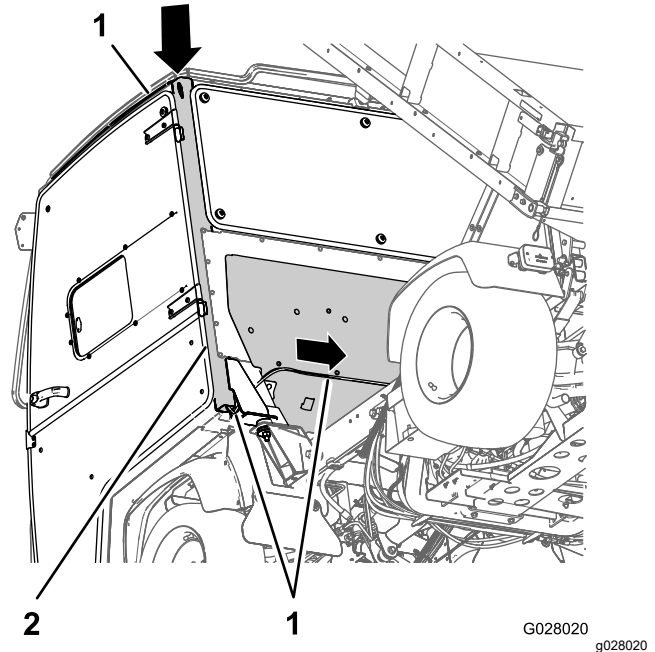

Figure 22
3. Route the free end of the hose into the opening at the top of the driver's side pillar B of the cab frame, and down through the frame (Figure 22).